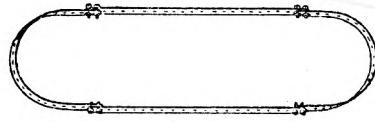

Fig. 1. Side frame before shaping.
(1) Build the frame first, take eight 12 in. metal strips and bend them U-shape in the centre to obtain the correct angle. This is best done over a broom handle or similar rounded article.
(2) Connect up two of these bent ends with two straight 12 in. strips, so that it resembles Fig. 1.